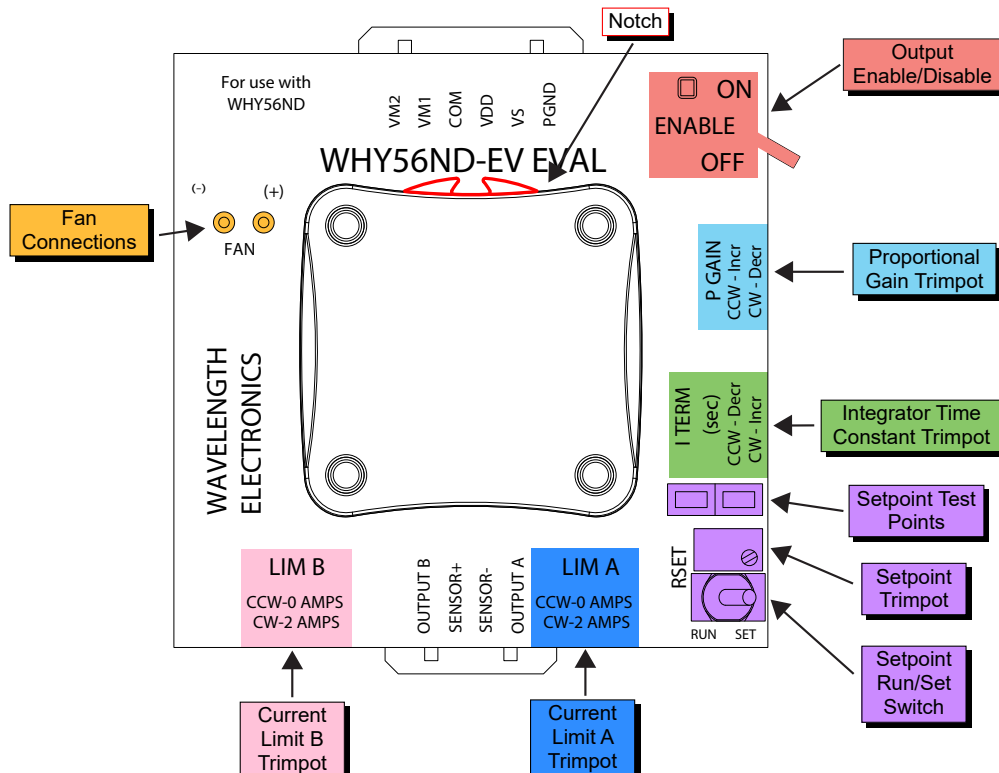

Figure 12. WHY56ND-EV Evaluation Board Top View
- Match up the notch (**Figure 12**) on the WHY56ND with the silkscreen on the PCB
Adjust the RSET trimpot to change the setpoint temperature. With the RUN/SET switch in the “SET” position, measure the resistance between the two test points next to the RSET trimpot. Adjust the RSET trimpot to change this resistance to the resistance value of the thermistor at the desired operating temperature. Once the RSET resistance is set to the desired level, return the RUN/SET switch to the “RUN” position. **Figure 12** shows the location of the RUN/SET switch and test points.
- Match up the notch (shown in Figure 12) on the WHY56ND with the silkscreen on the PCB